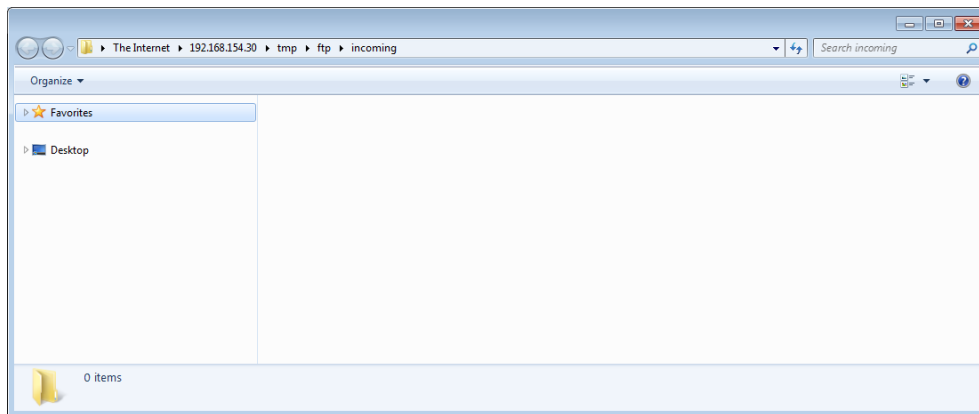

figure9: FTP upload page for Software Updates (Windows Explorer)
- An upload page for putting the Software Updates is shown (figure9).